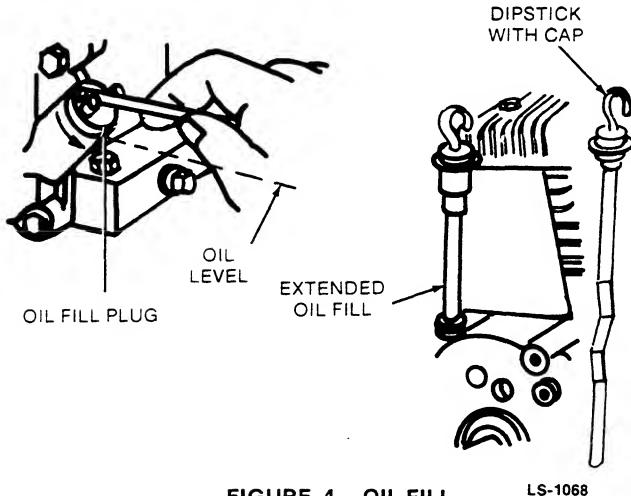

FIGURE 4. OIL FILL
**Sets With Oil Fill Plug:** Remove oil fill plug and fill crankcase to point of overflowing. POUR SLOWLY. Replace oil fill plug (see Figure 4) when full.
**Sets With Extended Oil Fill:** Remove cap and dipstick. Fill to FULL mark on dipstick. POUR SLOWLY. When checking oil level, push dipstick assembly firmly but slowly until cap bottoms on tube. DO NOT OVERFILL. Dipstick assembly must be securely assembled into tube at all times when engine is operating. (see Figure 4.)